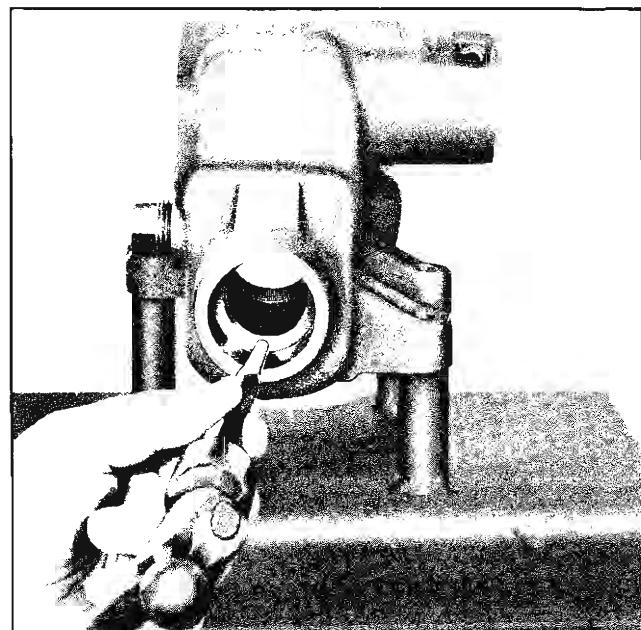

Fig. 9-24 Removing Lower Bearing Cup
2. Remove upper bearing cup with punch (Fig. 9-24).